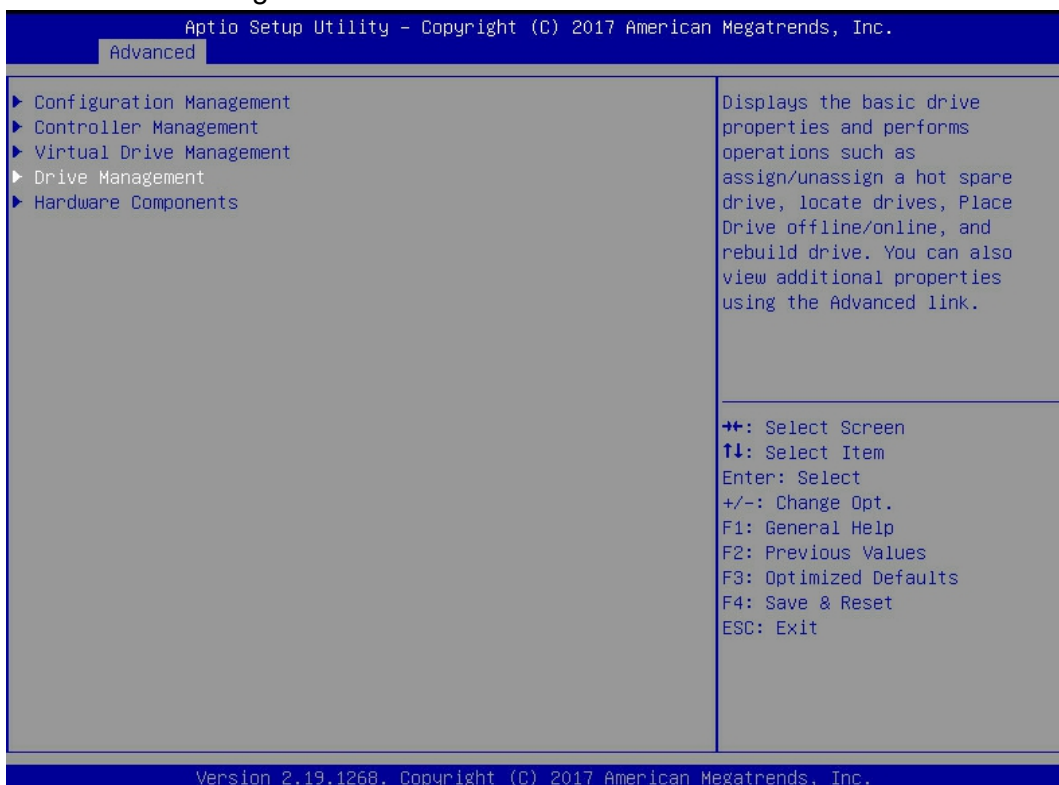

Figure 6-77
a) As shown in figure 6-77, select drive management in the raid card configuration interface and press enter.
✧ Figure 6-77 raid card configuration interface